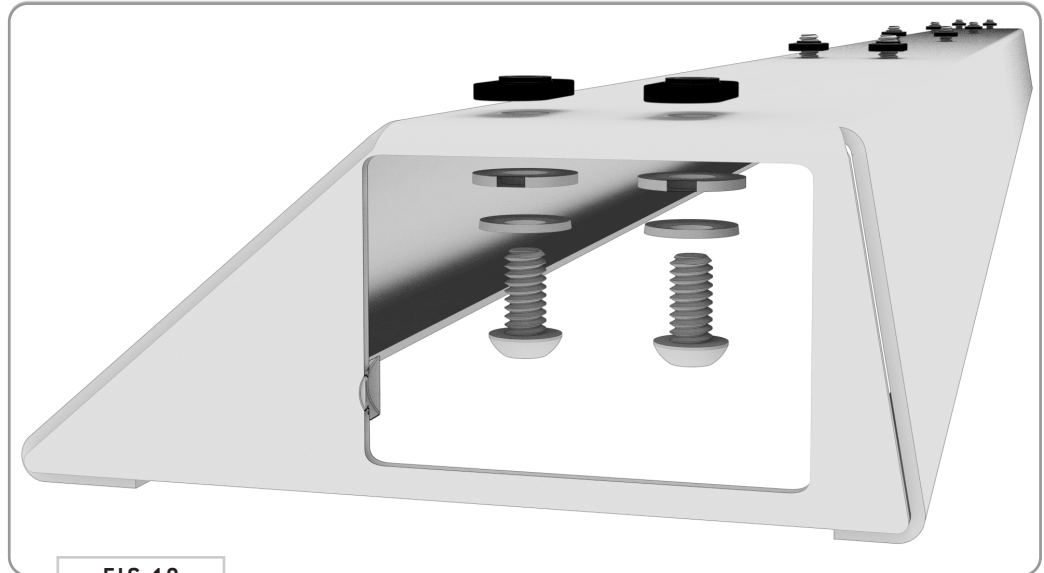

FIG 18
6.1 Spoiler Assembly: Stack a 1/4-20" x 0.5 Button Head Screw, 1/4" Belleville Lock Washer and 1/4" Flat Washer as shown in FIG 18 and insert into the ten available top holes of the Rear Spoiler. Loosely assemble using a T-Nut. You'll only want to screw the T-Nuts on a little in order to provide clearance for the next step.